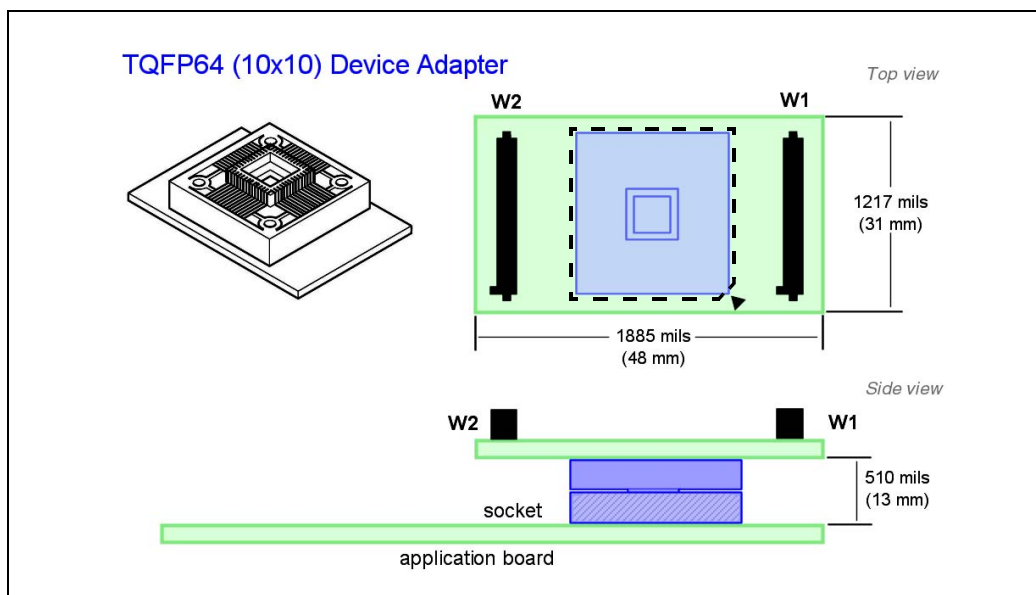

Figure 7: Device adapter critical dimensions
- 1 Solder the TQFP64 (10 x 10) socket on to your application board. Keep in mind, when designing your application board you should ensure that there will be enough room to accommodate the device adapter (Ref.: DB583), which will connect to the socket in place of your MCU (see Figure 7).